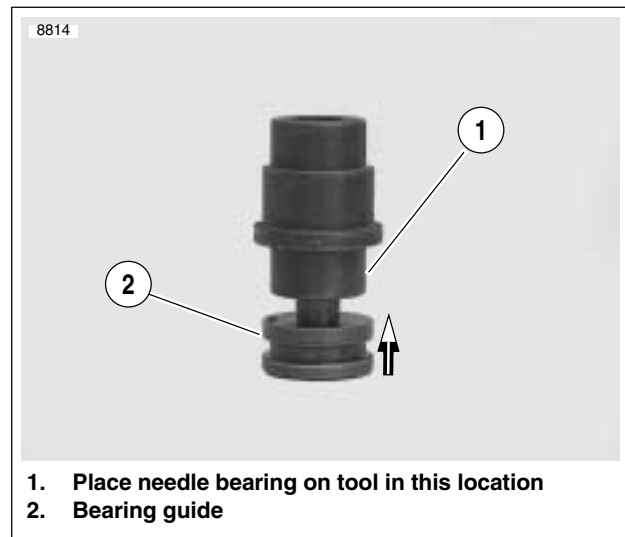

Figure 6-31. Bearing Installer
3. See Figure 6-31. Remove bearing guide from end of CLUTCH SHELL BEARING REMOVER/INSTALLER (Part No. B-45926).